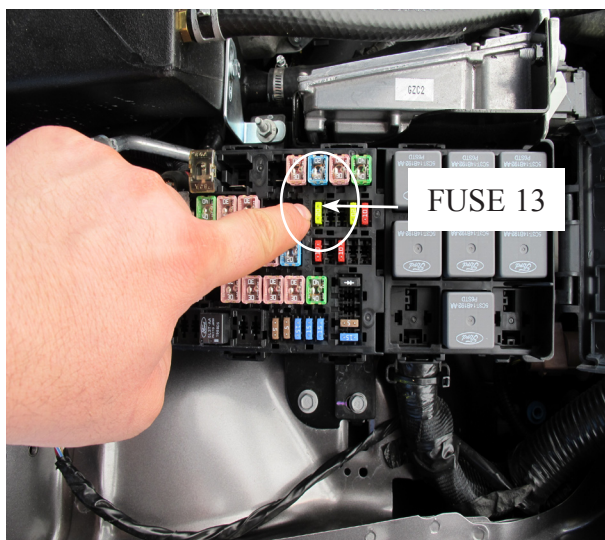

Fig. 13-i
- P. Locate the power distribution box located in the engine compartment on the passenger's side. Verify the #41 (2005-2009 Models) #13 (2010 Model) fuse is fuel pump. Replace the factory 15AMP fuse with the supplied 20AMP fuse. See Fig 13-i